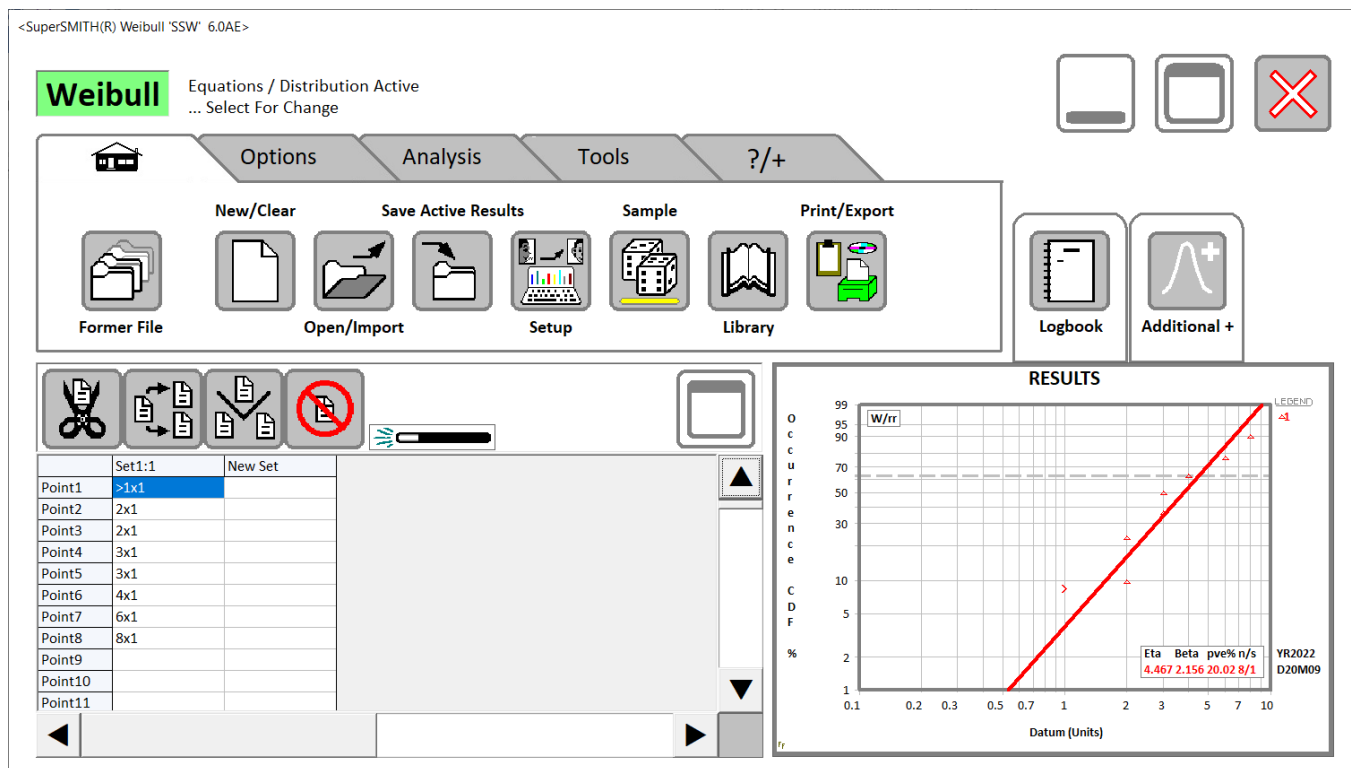

Figure 2: New SuperSMITH Weibull Main Screen Icon Layout.
DIRECT INSTALL: Power up the PC (Windows or simulator). Have the SS **setup.exe** and other installation files available. Load onto the PC by running **setup.exe** and following the prompts. After install, within the SuperSMITH group, select the SuperSMITH Weibull program. This is the SMITHW.EXE file or the icon showing plotted data with fit and confidence lines. Initially select “Yes” to agree to usage conditions, and automatically advance to the Main Screen (Figure 1 below shows the former icon layout, Figure 2 on the next page shows the new icon layout).
Use single selecting (single touching for touch screens) mostly in SuperSMITH. Double selecting is discouraged to minimize hand stress. We will be using life data mostly for illustration, but any type of measured data with variability can be analyzed. **For this tutorial if using the DEMO software, all input data must only be loaded from a file previously saved by a FULL SuperSMITH software program (provided with the software).** If using the FULL software, this is not a concern but maybe easier to do. All file names shown here are on a single text line for easy copying. Reminder: Figure 1 shows the new SSW icon layout for standard pointing device use, and Figure 2 shows an optional larger icon layout with tabs for touch screen use.
Start the SSW software by choosing Start from the Windows™ Main Screen, then the SuperSMITH group, then Weibull. On first use, select “Yes, I agree...” if you are asked and if you agree to the software use terms. You should see the Main Screen (Figure 2 below) with equation label (“Weibull” at first), some tabs, some icons, a data grid and a results box.
B. A probability plot should appear. Select the plot to enlarge. The plot should resemble the one in Figure 2. Your solution should indicate Eta=4.467, Beta=2.156. If not ... check the data and/or reset the method to Weibull “rank regression” standard. Select the full-window plot or use the <ESC> key to shrink the plot which will take you back to the Main Screen.